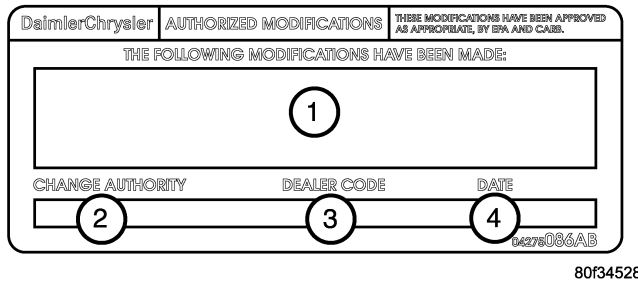

Fig. 2 AUTHORIZED MODIFICATION LABEL
- 9. Type the necessary information on the "Authorized Modification Label" p/n 04275086AB and attach near the VECI label (Fig. 2).